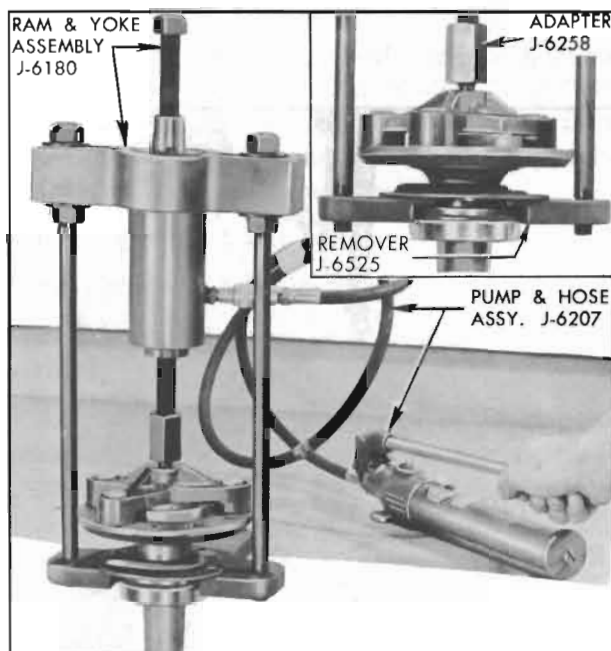

Figure 6-6—Removing Rear Wheel Bearing
2. Press the wheel bearing off, using Remover J-6525 either in a press or in a set-up using Ram and Yoke Assembly J-6180 and Adapter J-6258 as shown in figure 6-6.